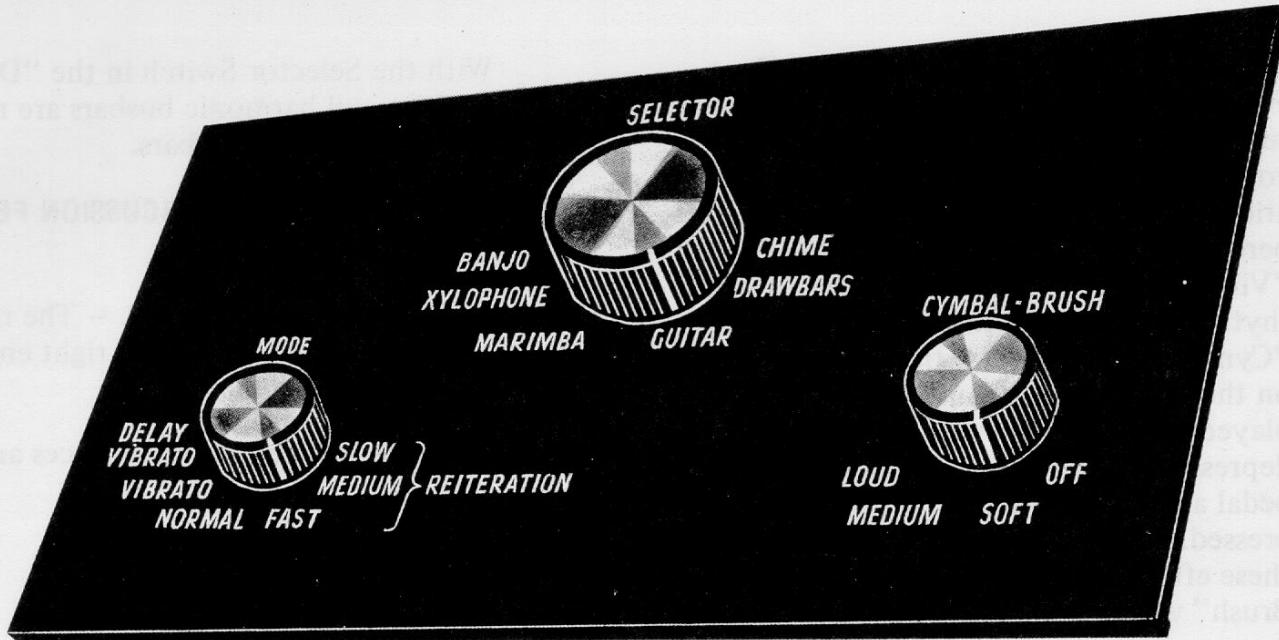

Figure 1-10. L-100A Preset Percussion Unit
**1-15. L-100A PRESET PERCUSSION UNIT (See Figure 1-10).**— When added to the L-100 series instrument, this unit adds five pre-voice percussion effects, including reiteration in three speeds. It also provides three percussion effects, "Normal (Non-Vibrato)", "Vibrato", and "Delayed Vibrato". For the rhythm accompaniment it also provides a "Cymbal-Brush" effect, the "Brush" being on the lower manual, and available when played in a legato fashion each time a key is depressed. The "Cymbal" is available on the pedal and sounds each time a pedal is depressed. The "Cymbal-Brush" control turns these effects on and selects the "Cymbal-Brush" volume.